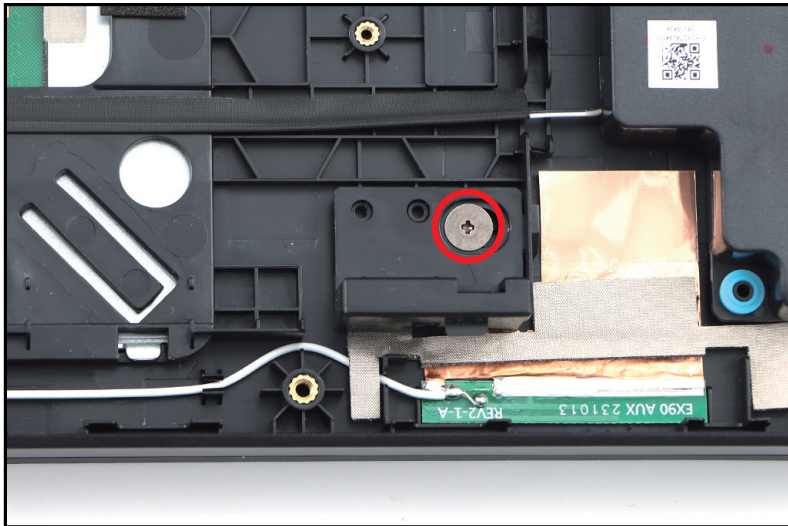

Figure 1-11. Battery Pack Removal
5. Remove one (1) screw securing the battery holder (Figure 1-11).